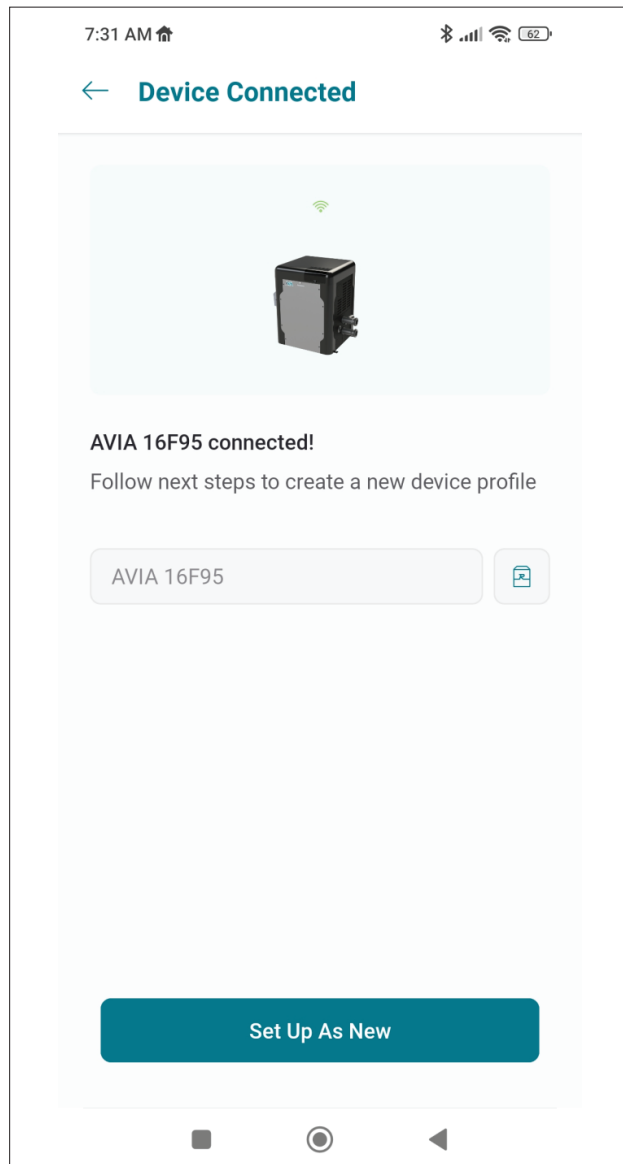

Figure 97. Name Your Unit
1. Your device is now connected to Wi-Fi. You can change the name of your device here. See **Figure 97**.